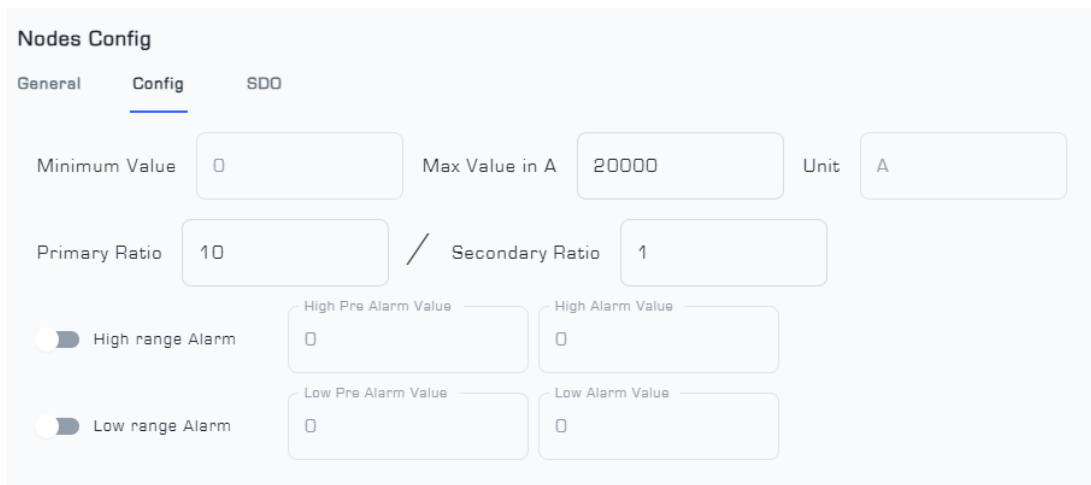

Figure 6: Config Menu from Node Config
- As illustrated in Figure 6, the configuration menu for the single-channel AC current node allows for customization of gauge ¹ settings, CT transformer parameters ², and node alarm thresholds. Specifically, the High Alarm Value and High Pre-Alarm Value determine the upper limits for triggering alarms and pre-alarms, respectively. Conversely, the Low Alarm Value and Low Pre-Alarm Value set the lower thresholds for these alert